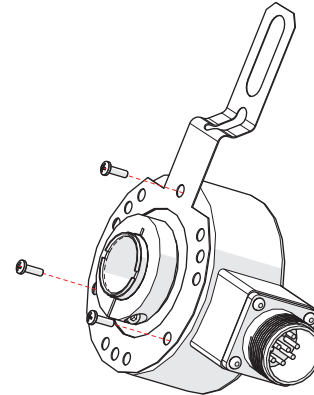

Figure 3: Remove Encoder Tether
4. Remove three (3) existing bolts holding the encoder tether to the encoder. See Figure 3.